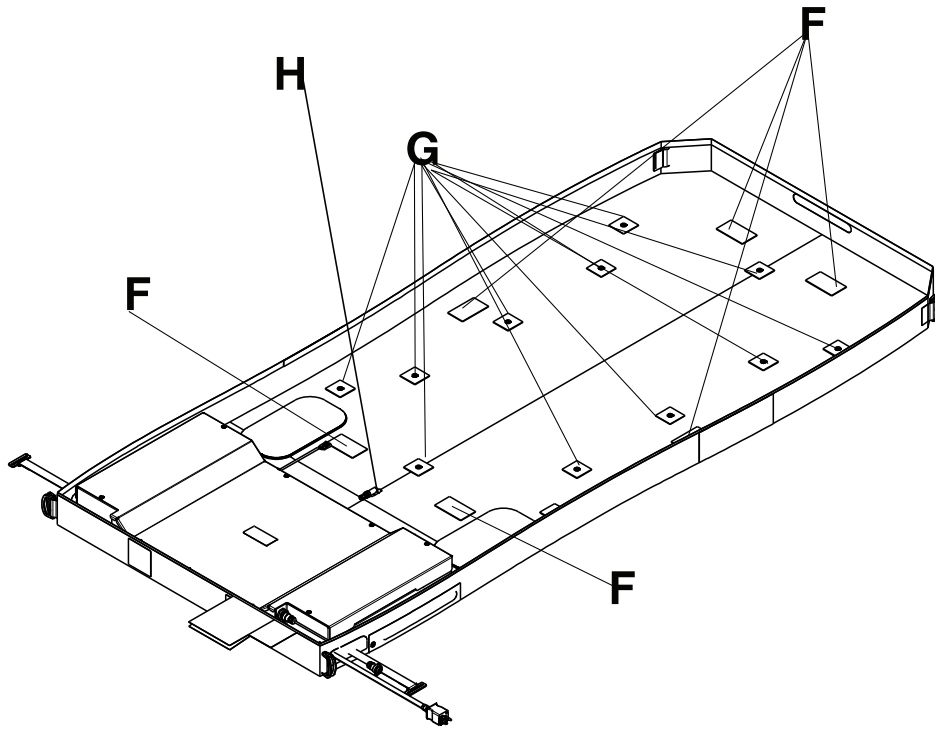

Figure 4 – Pod hook and loop patches and snap retainers
17. Starting at the head end of the support surface, separate the six hook and loop patches from the bottom cover (F) (Figure 4).
18. Gently unsnap the twelve snaps and separate the hook and loop patches from the left and right sides of the turn bladder (G).